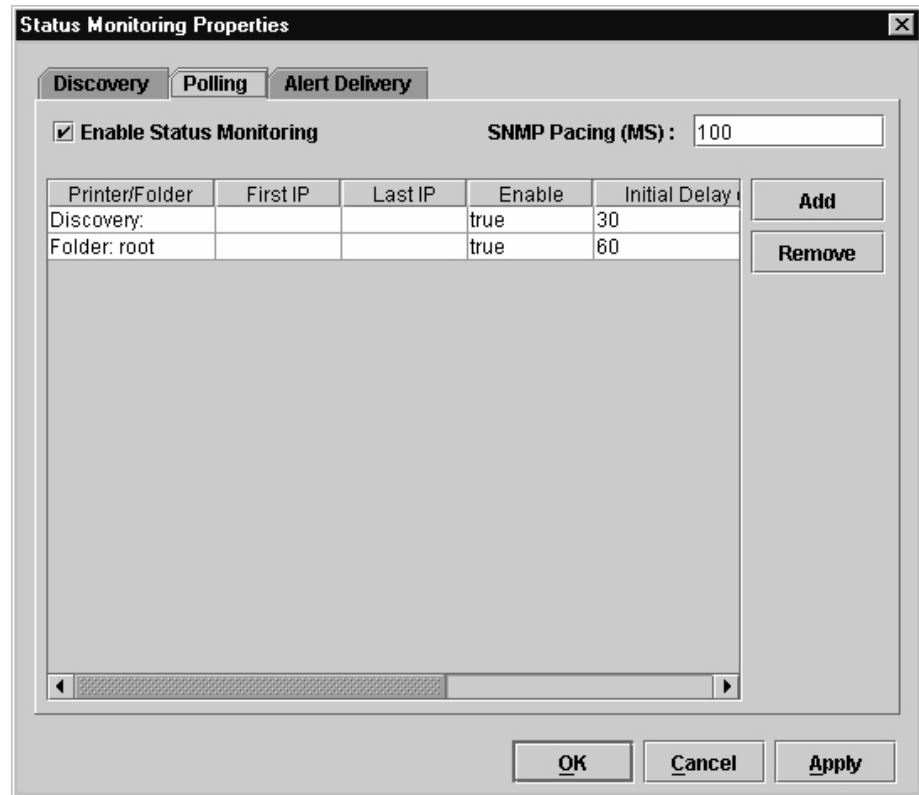

Figure 29. Status Monitoring Properties: Polling Tab
To enable the option, check the **Enable Status Monitoring** check box in the Polling tab (see Figure 29). The SNMP Pacing (MS) value places a delay between each SNMP request. This feature minimizes the network load. By default, the value is set at 100 milliseconds (.1 second).